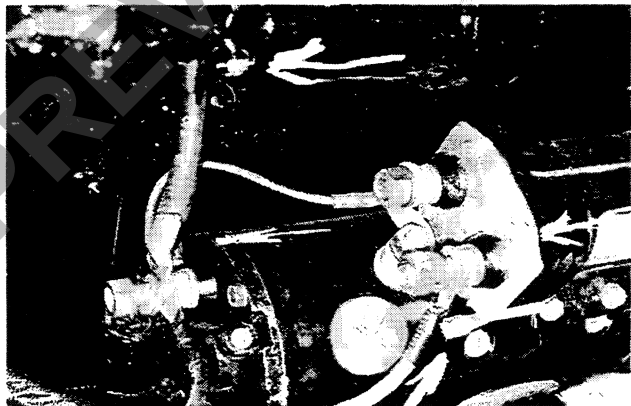

Figure 3:
5. On the starter only the battery cables (Fig. 3), frame ground and slave solenoid wire need disconnecting.